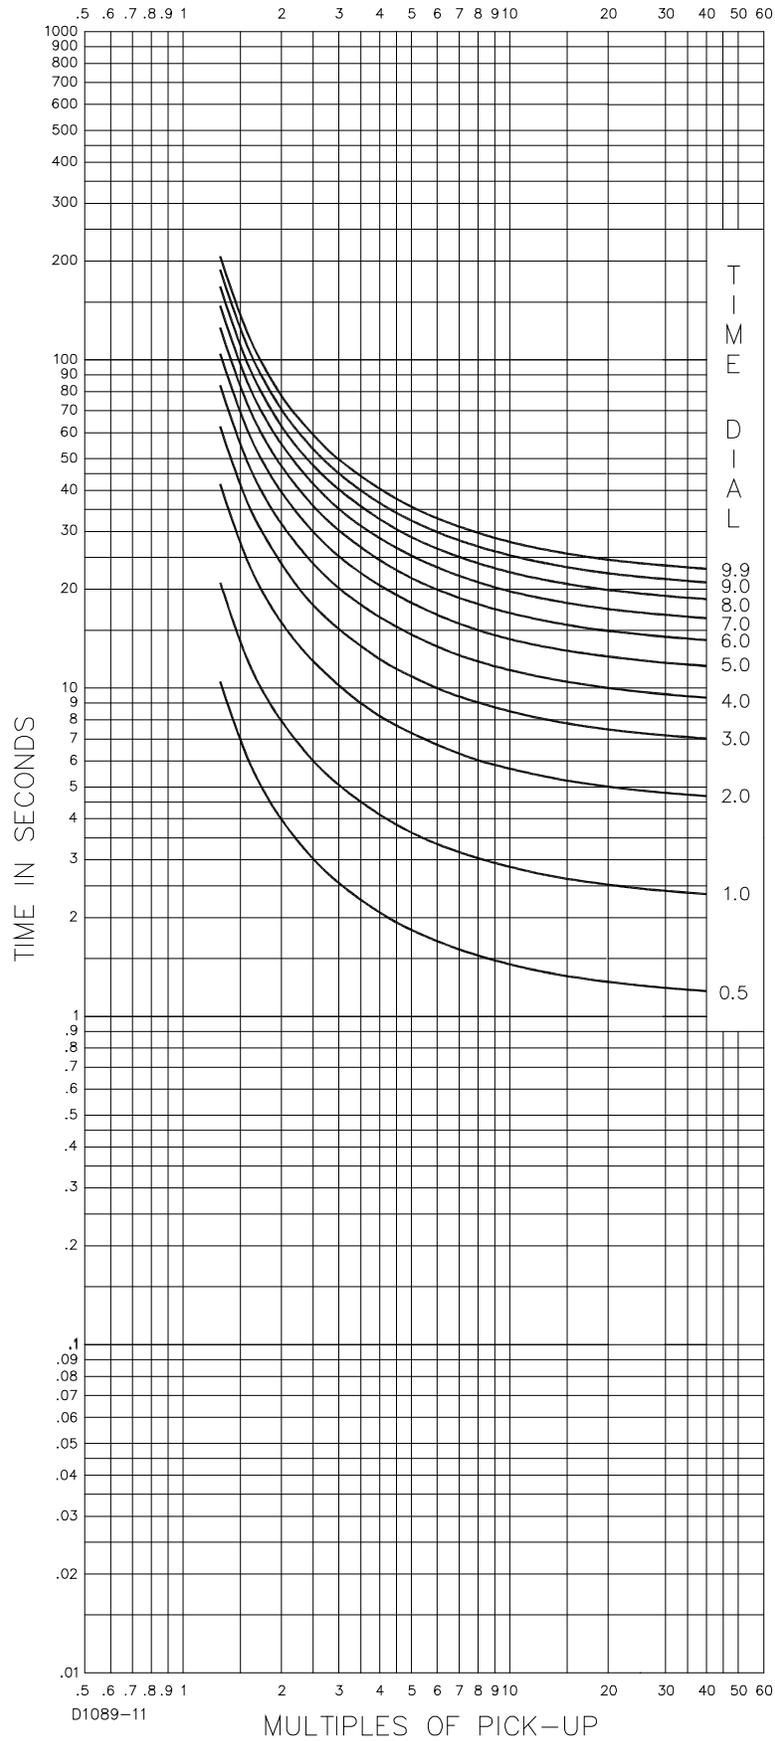

Figure 7-2. L-Long Inverse Curve (SW3-3 Off, Similar to ABB CO-5)
- L-Long Inverse (SW3-3 OFF, Similar to ABB CO-5): Figure 7-2